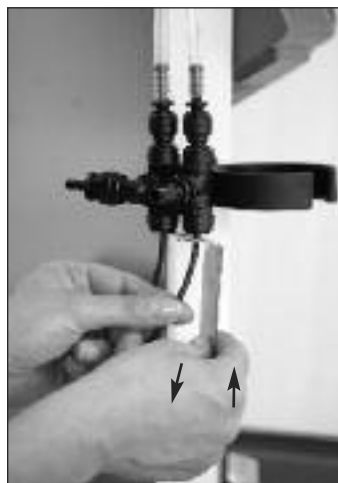

Fig.26
- ☞ Remove both sensors. To remove a sensor, push back the outer ring to release the locking device on the push-in connector, while at the same time pulling the temperature sensor out of the connector, see fig. 26.